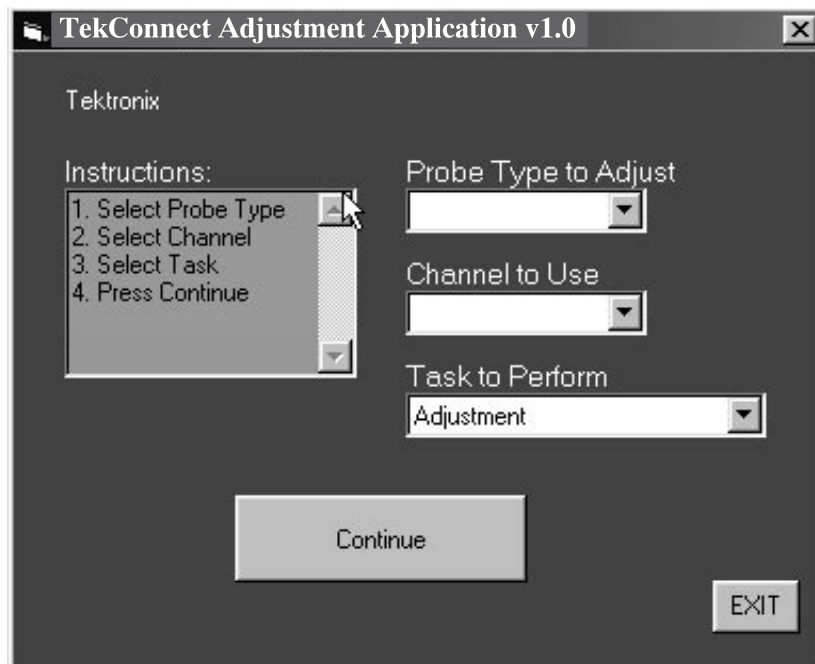

Figure 11: TekConnect probe adjustment application
8. When the application starts, the display appears as shown in Figure 11.